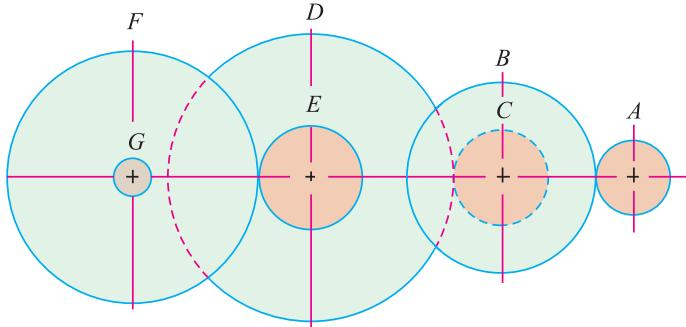

Fig. 34.9.
**Example 34.2.** The gearing of a machine tools is shown in Fig. 34.9.